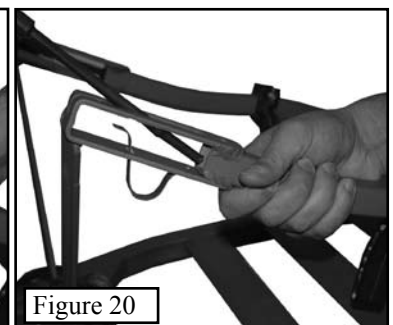

Figure 20
Step 2. Take one end of the cable around the tree and begin to slide it down into the tubing as shown in **Figure 20**. Once the cable slides easily into the tubing (it helps to bend the cable upward while pushing down on it), you are ready to place it in its final position.